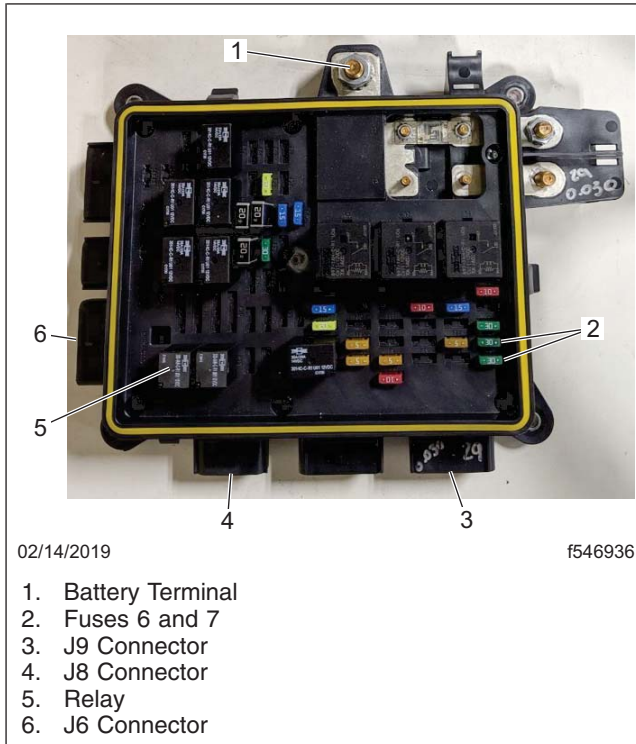

Fig. 2, PDM Components
IMPORTANT: The tester will work with a PDM connected to the vehicle or removed and placed on a work bench. If the PDM is being bench tested (PDM is not on the vehicle), ensure that 12V of power is supplied to the battery terminal. See Fig. 2, item 1.
5. Remove the PDM cover and locate the circuits to be tested. See Fig. 2.
6. Remove the two fuses and one relay from the PDM. See Fig. 2, items 2 and 5.
15. Remove all of the test box connectors and install the relay and fuses removed earlier. For relay and fuse locations see Fig. 2.